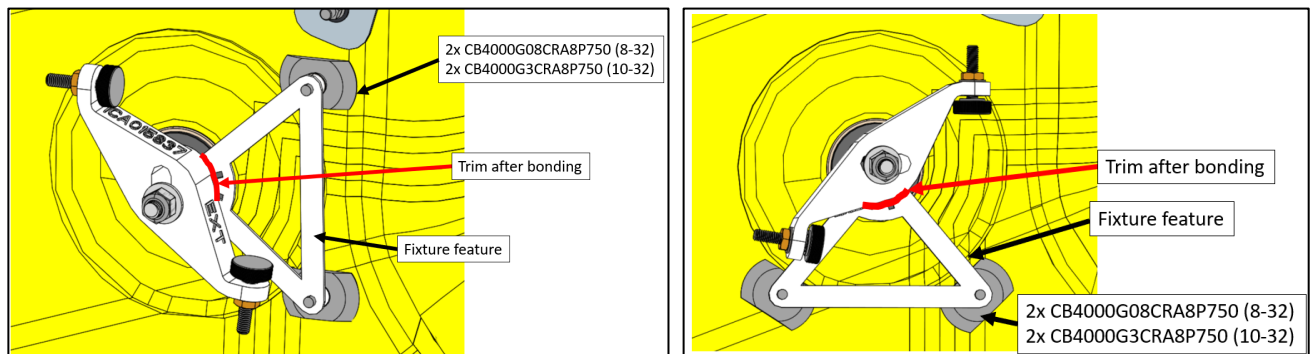

Figure 11. NLG limit switch bracket assembly installed; (1.0 configuration: orient as shown on right)
12. With rig pin still installed, or using ITL001714 if no rig pin hole is available, bond CLICKBOND studs (CB4000G08CRA8P750 or CB4000G3CRA8P750) in the place oriented by the fixture (Reference **Figure 11**). Bond using CB200 in accordance with manufacturer recommendations. Backfill as needed with CB200 where stud overhangs core.
13. After allowing to adequately cure, use a razor knife to carefully trim away the fixture close to the base as shown in red line in **Figure 11**.